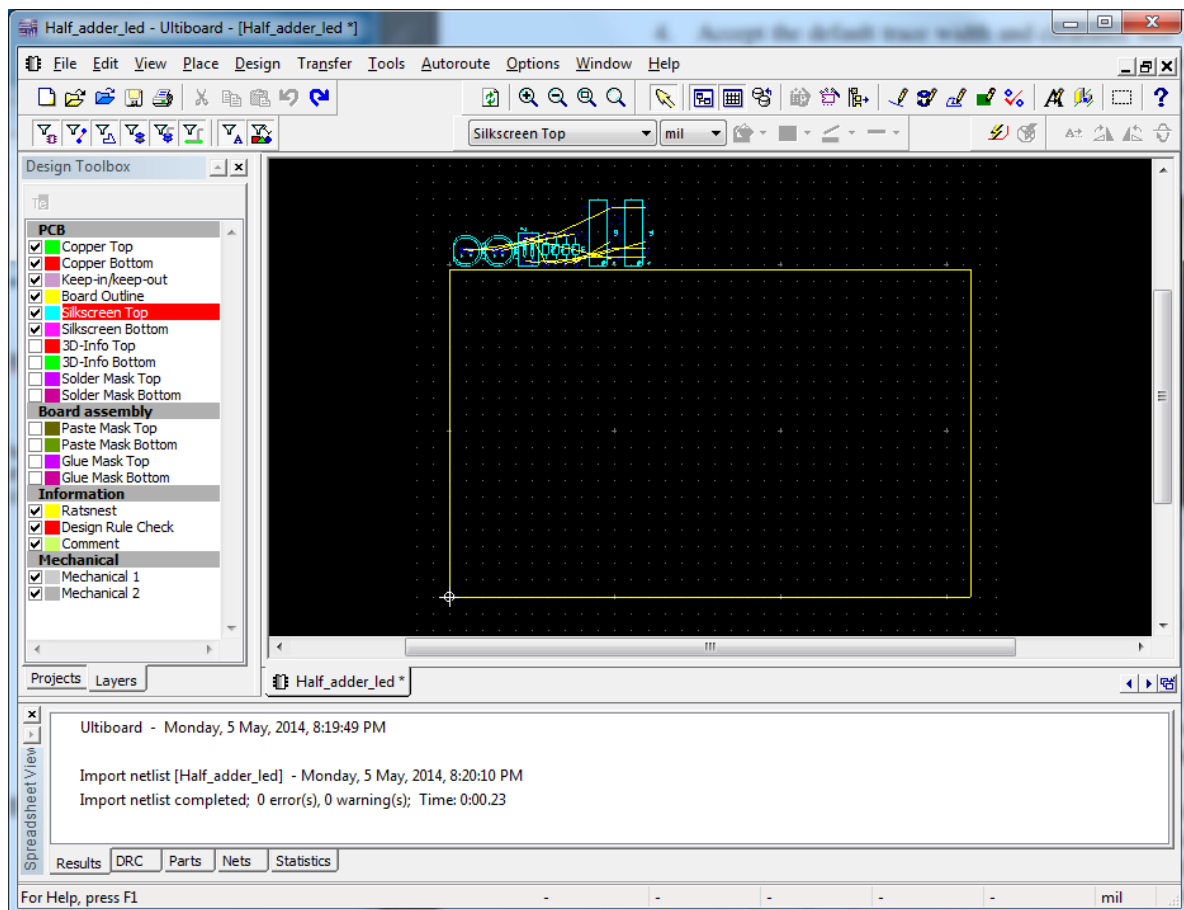
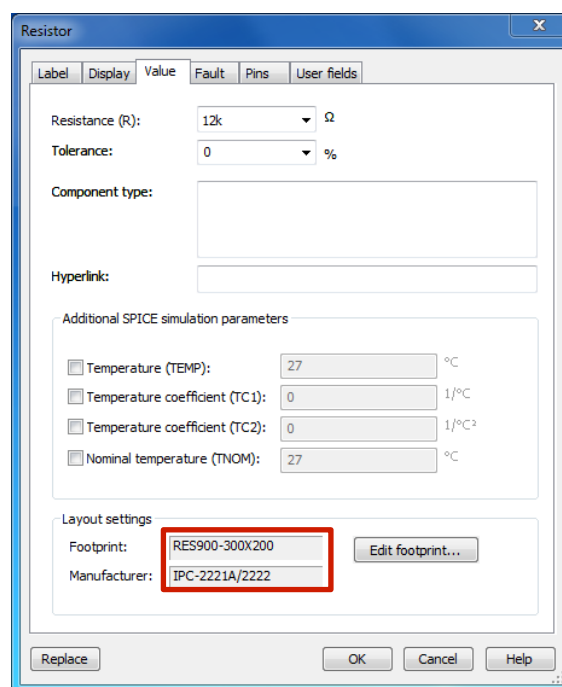

Figure 12: Ultiboard interface
Figure 13: Footprint for Resistor
4. The program should look like Figure 12.
- If the resistors are not printed in the Ultiboard like Figure 12, you have to change **Footprint** of the resistors as shown in the Red box of Figure 13.